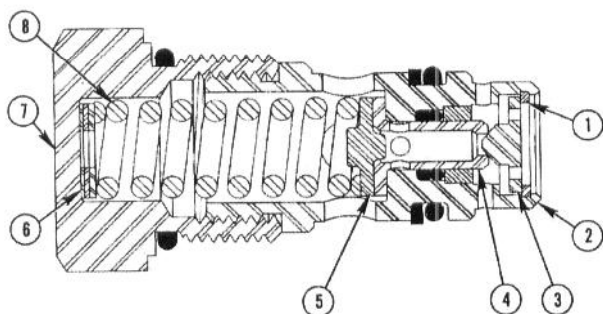

Fig. 11 — Cutaway Typical of "32042" Relief Valve
2. Disassemble this relief valve as follows ... see Fig. 11.